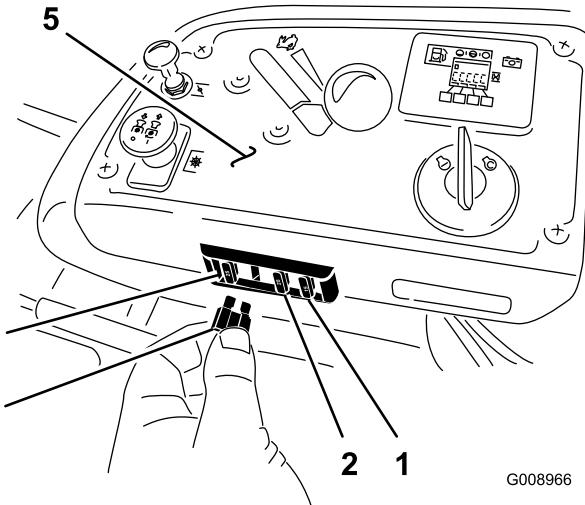

Figure 59
The fuses are located on the console to the right of the seat (Figure 59).
2. Install a new fuse (Figure 59).